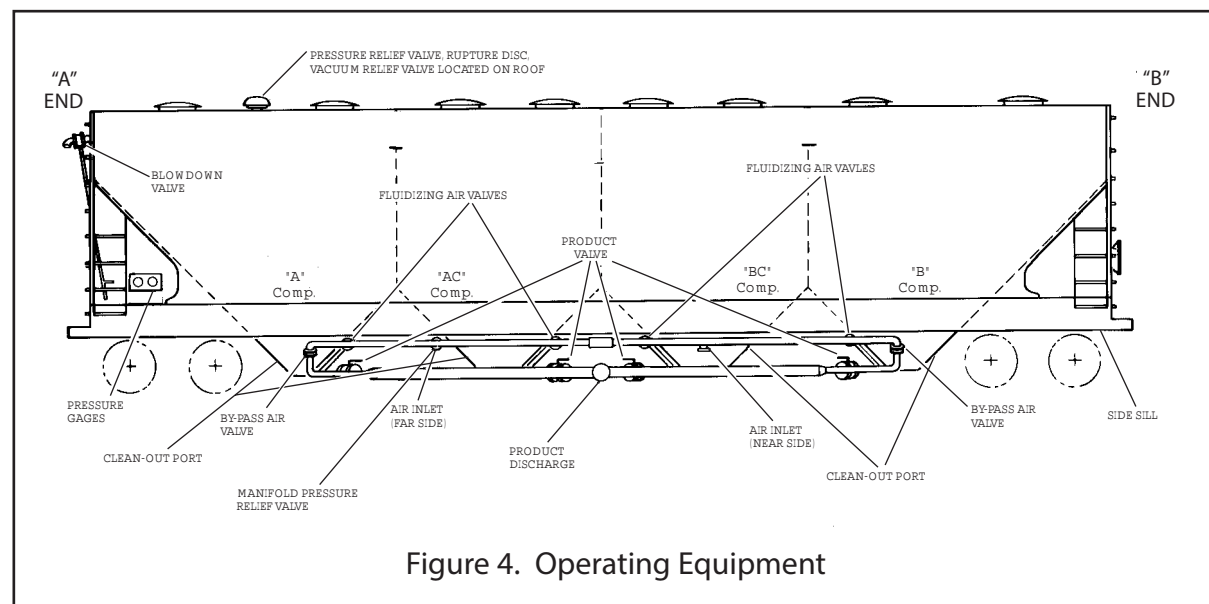
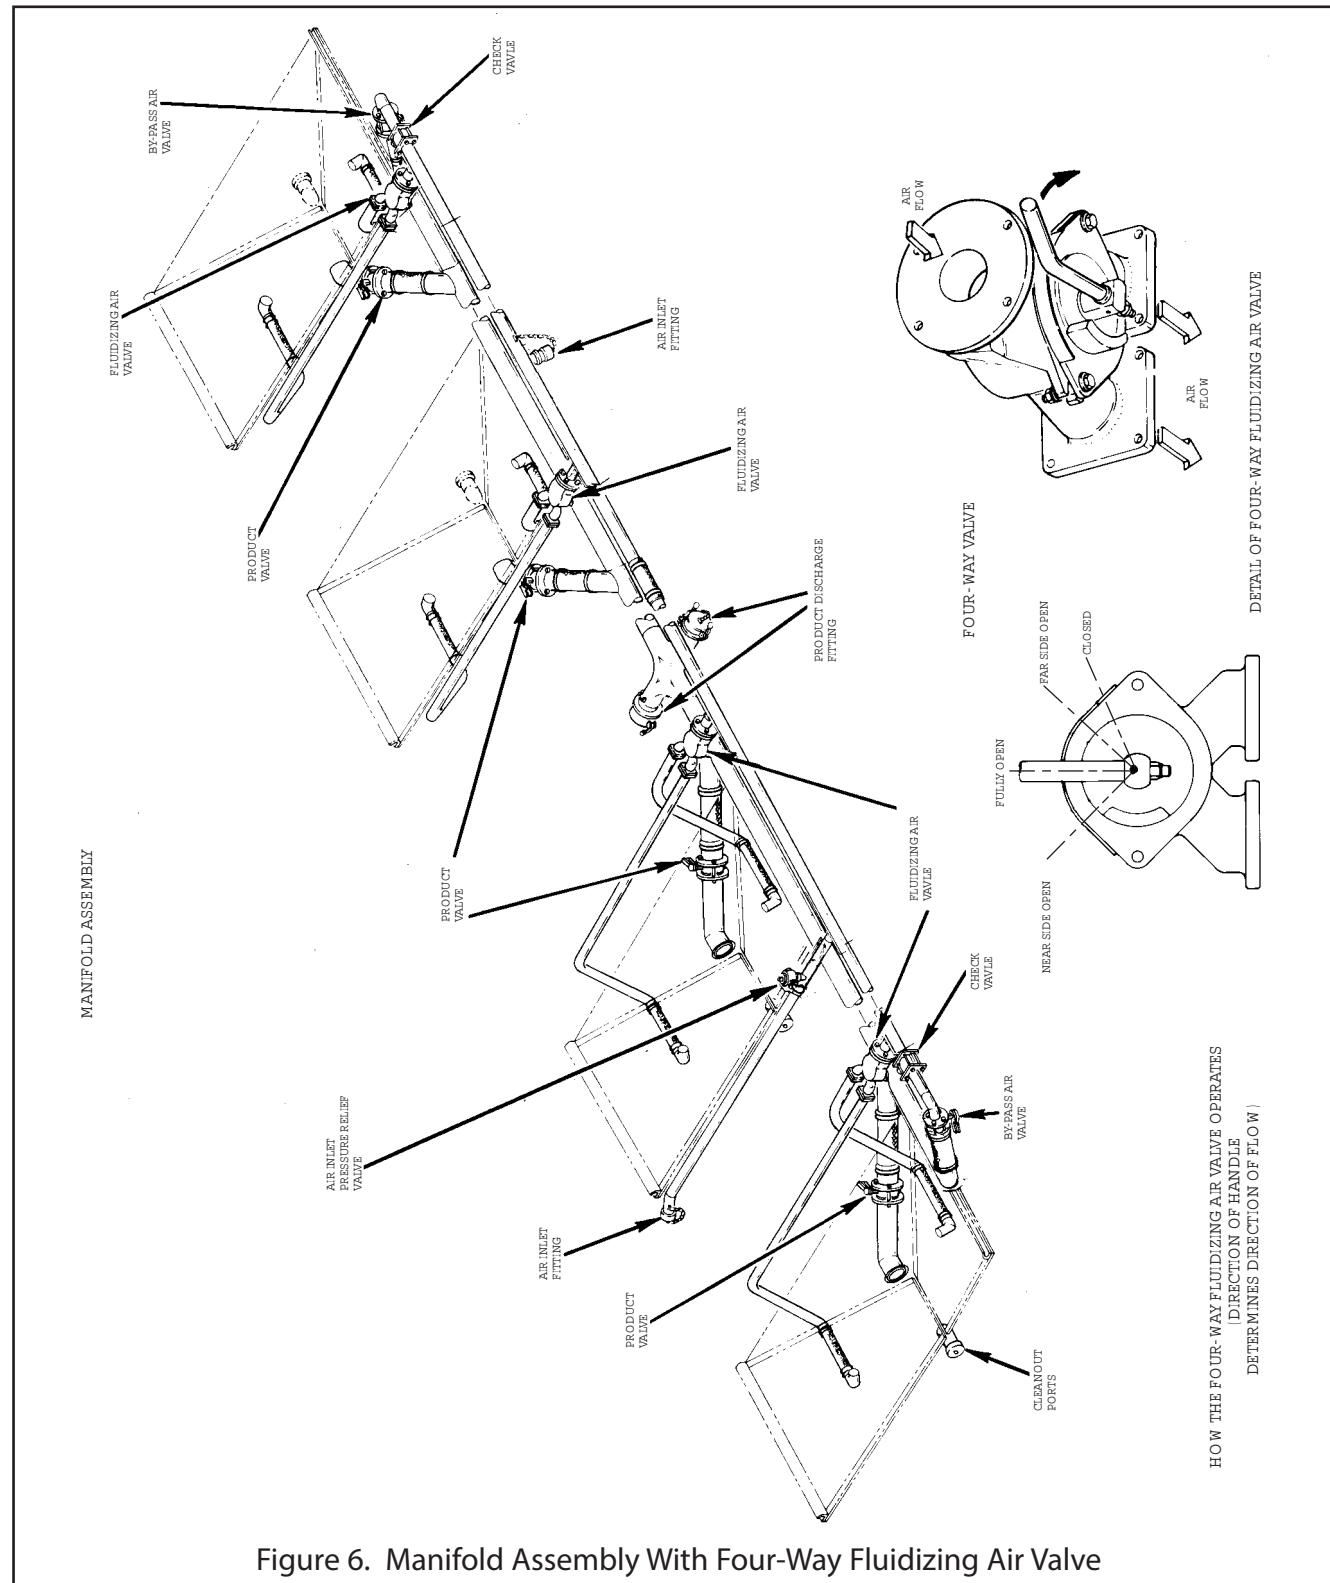

Figure 4. Operating Equipment
Figure 6. Manifold Assembly With Four-Way Fluidizing Air Valve
1. Pressure Relief Valves (Refer to figures 4 and 6) - The car is equipped with a pressure relief valve on the "A" end of the car body that is set to open at 14.5 ± 0.5 psig. The car is also equipped with a pressure relief valve on the air inlet manifold (see figure 6) which is set to open at 16 ± 0.5 psig.